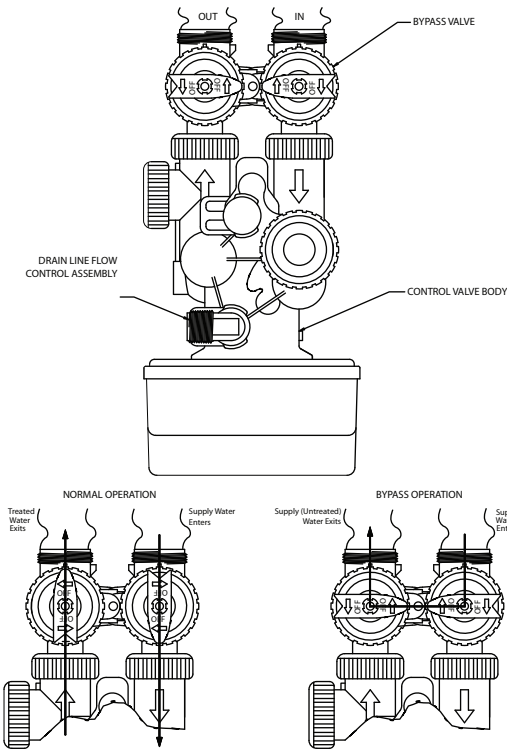

Figure 2
- d) Place the funnel provided in the opening of the media tank to aid in loading the gravel and titanium oxide. Pour the QC gravel into the media tank slowly. While holding the distributor tube in place shake the media tank from side to side gently, to aid in leveling the QC gravel. Pour the QF gravel slowly into the media tank. While holding the distributor gently shake the media tank from side to side to evenly distribute the filter gravel in the media tank. Lastly, locate the titanium oxide and slowly pour into the media tank; again, gently shake the media tank from side to side to level out the titanium oxide while holding the distributor tube to prevent it from lifting or moving. Next, using a hose or clean pail, fill the media tank with water to saturate the titanium oxide and expel air within the titanium oxide and media tank. Remove the tube extension device and funnel from the media tank opening, saving for future service or maintenance of the arsenic reduction system. It is recommended that the media be allowed to saturate for a minimum of twenty four (24) hours prior to initial backwash.
- e) Using a dry rag, clean the opening of the media tank to remove any dust or residue from the opening to receive the control valve. Apply a silicone based lubricant the tank and control valve o-rings that seal against the media tank and the distributor tube in the center of the control valve. Place the center of the control valve over the distributor tube and slide down until it contacts the media tank. Secure the control valve onto the media tank. Insert the distributor tube into the pilot tube adapter and screw the control valve down until the valve is flush with the opening of the media tank. Locate the installation assembly packet and assemble as the enclosed instructions dictate. Figure 2 represents the final assembly of the bypass. Attach the bypass assembly and connection fitting to the control valve and hand tighten only.
- a. Shut off the flow of water to the filter system by rotating the bypass knobs to the bypass position as shown in Figure 2 in section 2. Manually initiate a REGEN to relieve the water pressure in the arsenic reduction system. The display will read C1 to indicate that the control valve is in the backwash position. Once the valve motor stops, unplug the cord from the electrical outlet.